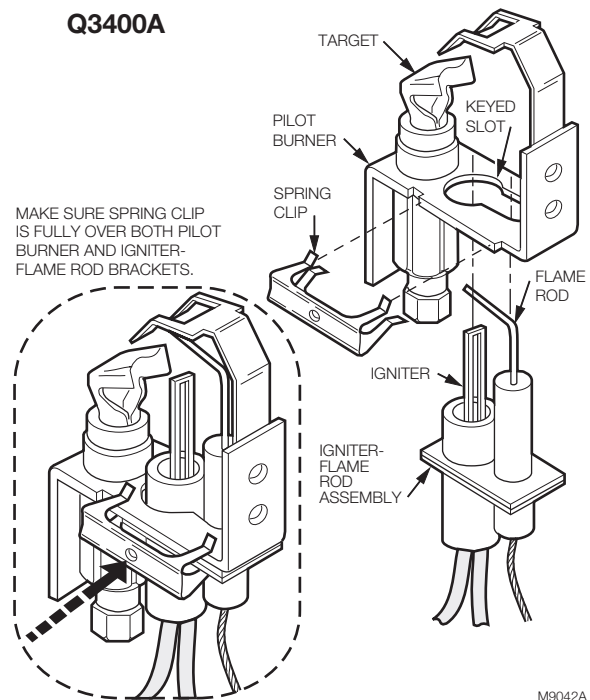

Fig. 1. Replace Q3400A Igniter-Flame Rod Assembly in keyed slot of pilot burner bracket.
The Q3400A Igniter-Flame Rod Assembly replaces the original igniter-flame rod assembly in the Q3450 and Q3480 Pilot Hardware used in the SmartValve™ System. The Q3400A has a unique keyed plug connector that will only fit the SV9501/SV9601, SV9502/SV9602, SV9540/SV9640, and SV9541/SV9641 Systems. This assembly can be replaced without removing the pilot burner, see Fig. 1.
2. Hold the bottom of the assembly with one hand. With the other hand, remove spring clip by pulling it away from the pilot burner. See Fig. 1.
1. Insert assembly in the pilot burner until assembly is flush with pilot burner bracket. Secure with new spring clip provided. See Fig. 1.